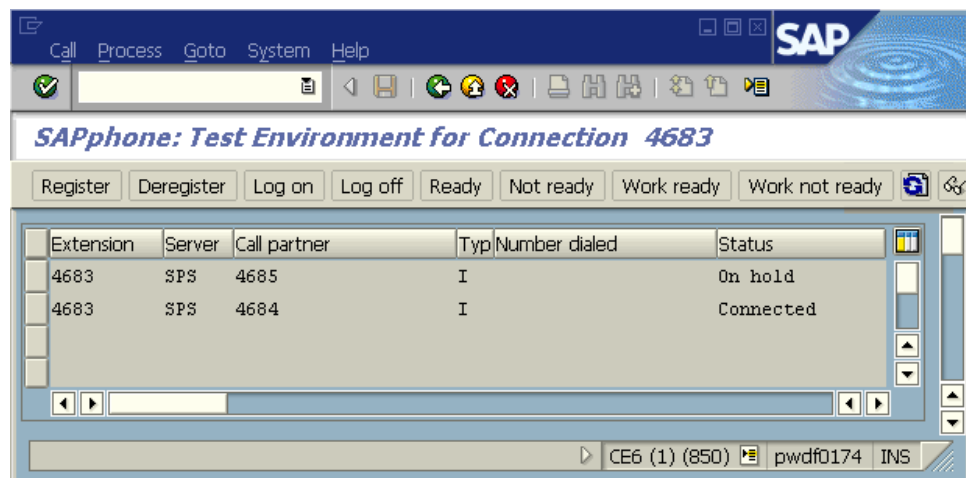

Figure 30: SAP: Initial and Consult Calls
8. Answer the incoming call from the SAP GUI or the physical phoneset. As a result of answering the call, the SAP agent has two current calls - one of which is on hold, and the other one of which is connected. Figure 30 displays the state of the two current calls.